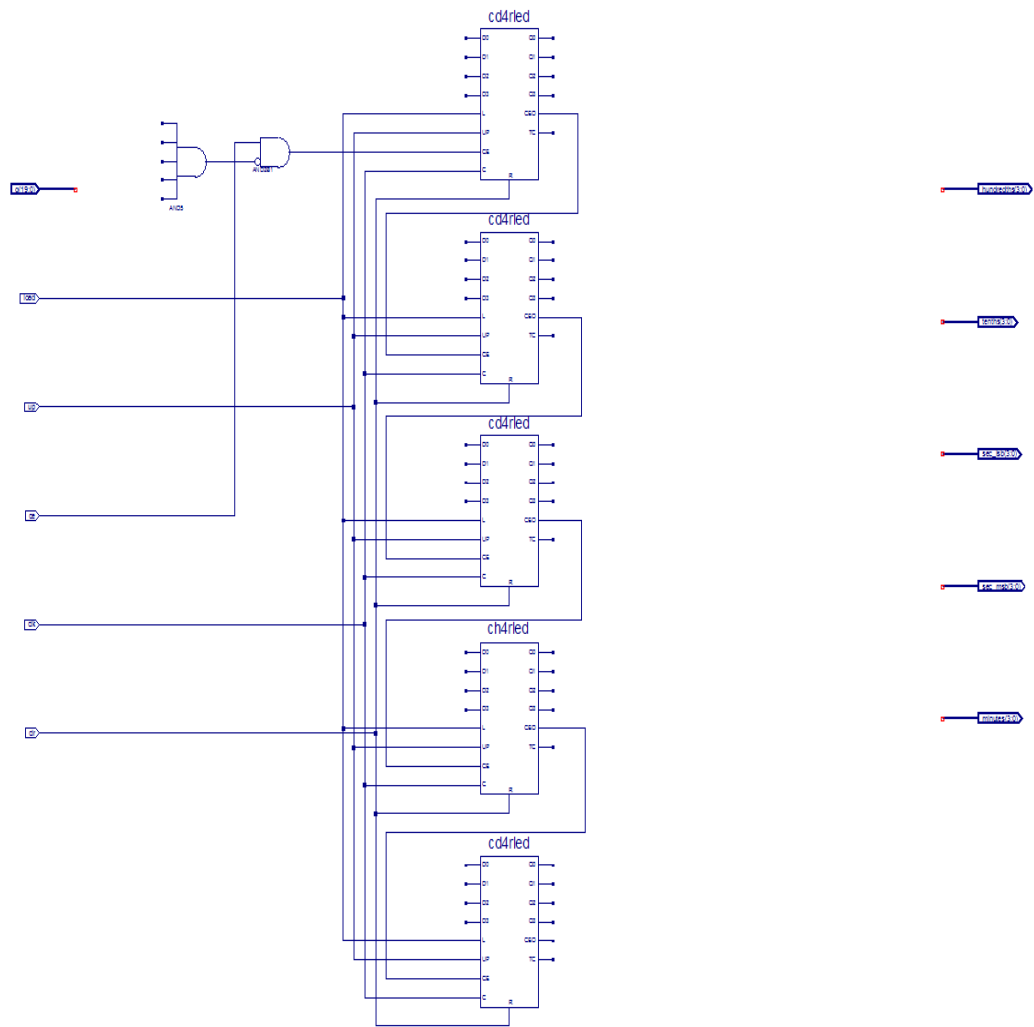

Figure 3-10: Partially Completed time_cnt Schematic
5. Place three more cd4rled symbols on the schematic by moving the cursor with attached symbol outline to the desired location, and clicking the left mouse button. See Figure 3-10
Refer to Figure 3-10 for placement locations.
4. Connect the **load**, **up**, **clk**, and **clr** input IO markers respectively to the **L**, **UP**, **C**, and **R** pins of each of the five counter blocks and connect the **CEO** pin of the first four counters to the **CE** pin of the next counter as shown in Figure 3-10.